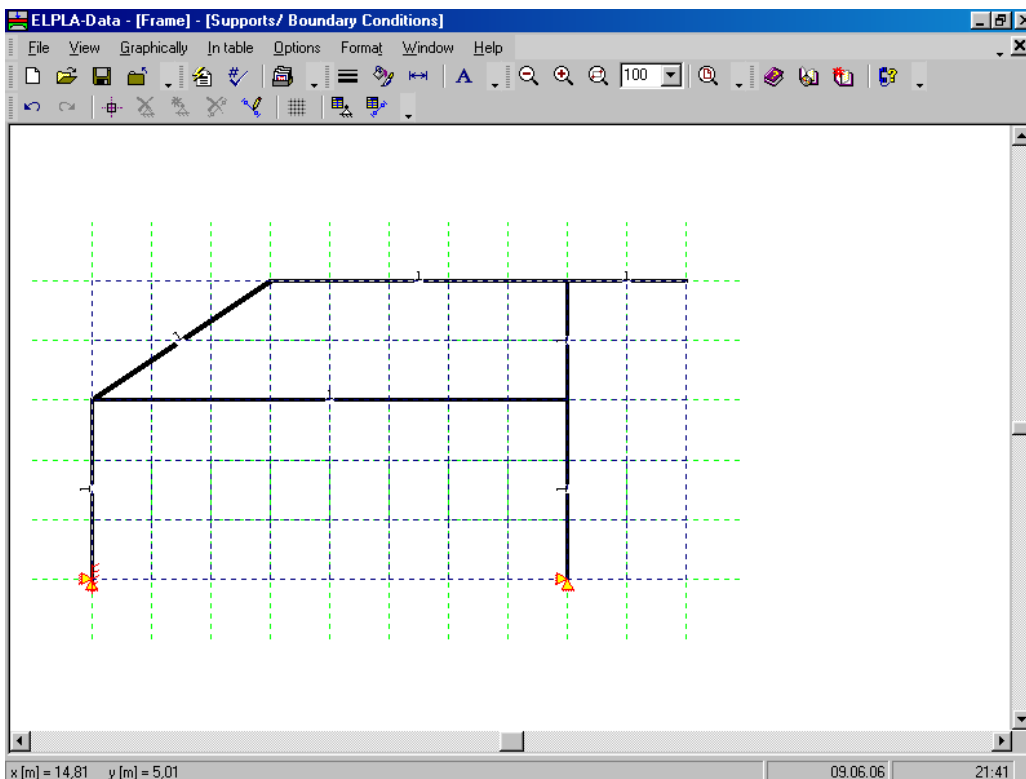

Figure 7-23 Supports on the screen
After you have completed the definition of supports, the screen should look like the following Figure 7-23.
- Choose "Save supports/ Boundary conditions" command from "File" menu in Figure 7-23 to save the data of supports
- Choose "Close supports/ Boundary conditions" command from "File" menu in Figure 7-23 to close the "Supports/ Boundary conditions" embedded program and to return to the main window of *ELPLA-Data*